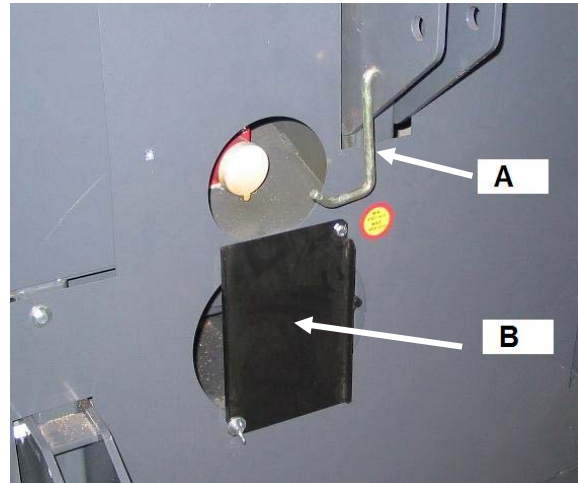

Fig. 9
3.10 The machine is equipped with a system to prevent simultaneous operation in two modes, Fig. 9